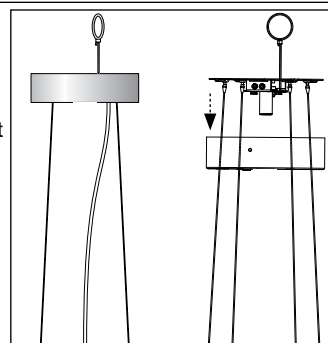

Figure 1: Canopy Cover Removal
1. Detach the magnetic canopy cover from the mounting plate. [Figure 1]